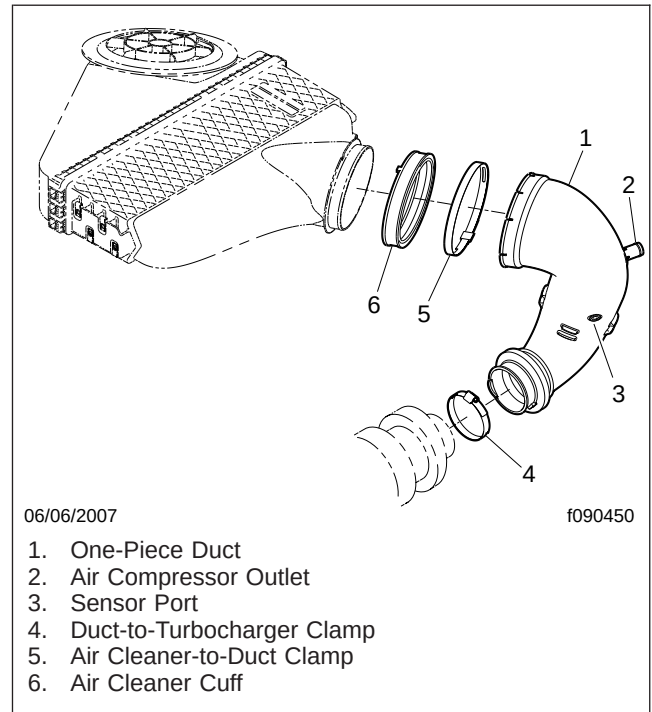

Fig. 1, Air Intake Ducting (Detroit Diesel Series 60 engine shown)
4. Loosen the hose clamps on the air intake ducting at the air cleaner outlet and the turbocharger inlet. See **Fig. 1**.